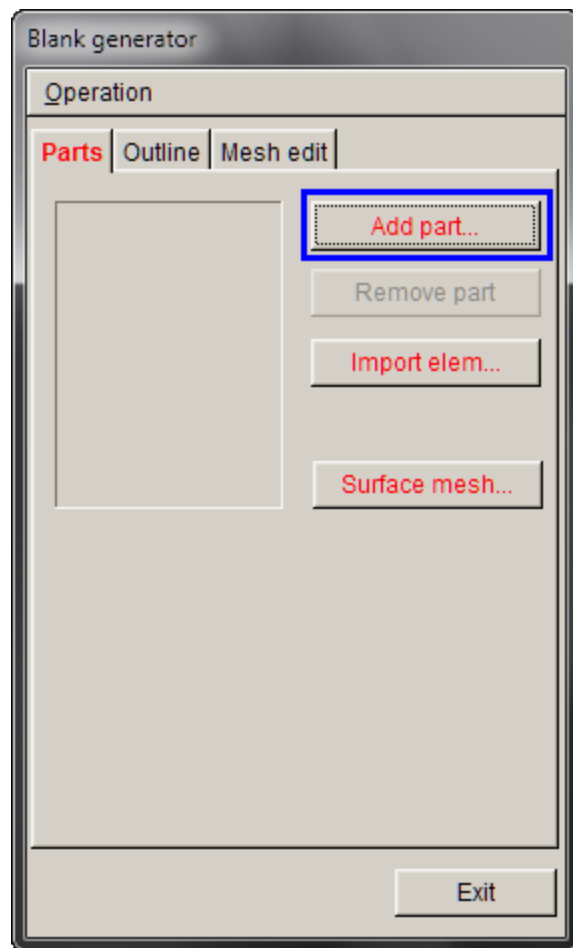

Figure 5
4. Click **Add Part...** (Figure 5).
7. Click **Exit** button (Figure 5).